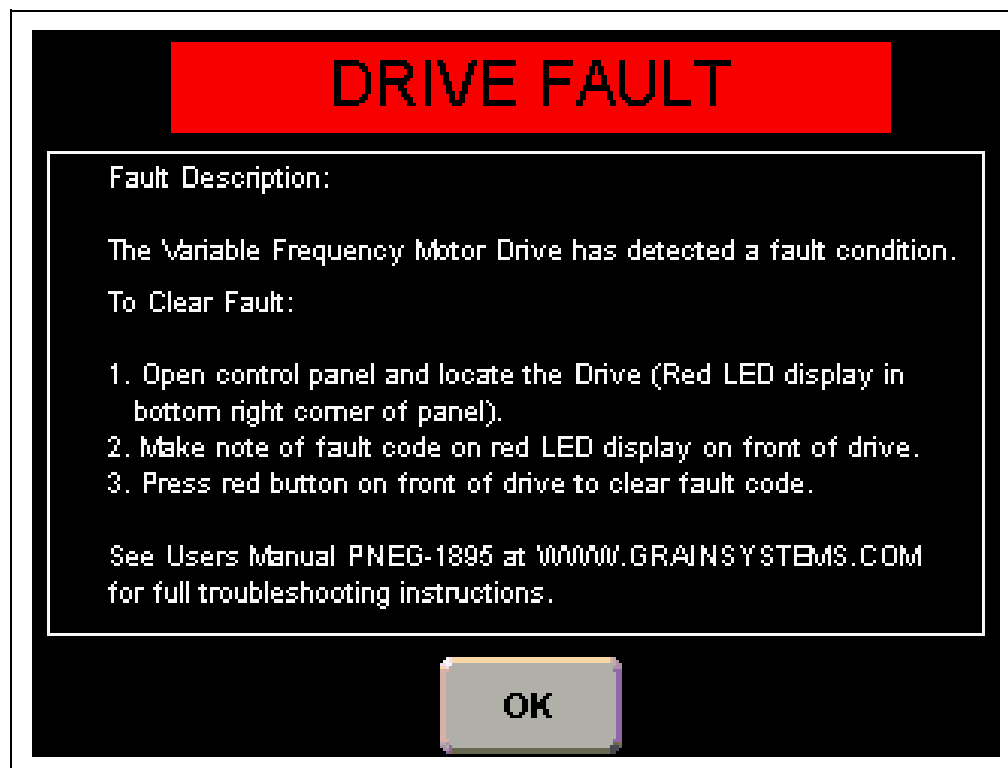

Figure 4V Drive Fault Screen
**Drive Fault:** Displays the “VFD” Fault screen which offers possible causes and solutions to faults caused by the variable frequency drive. (See Figure 4V on Page 35.)